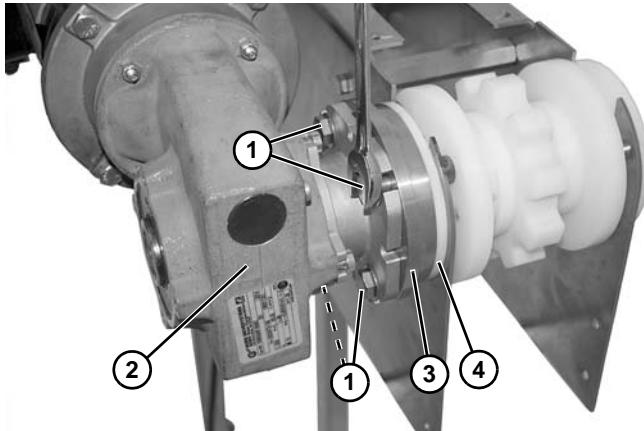

Figure 43
3. Remove four bolts and washers (Figure 43, item 1).
4. Remove motor (Figure 43, item 2), adapter (Figure 43, item 3), and bearing housing (Figure 43, item 4) from the drive shaft.